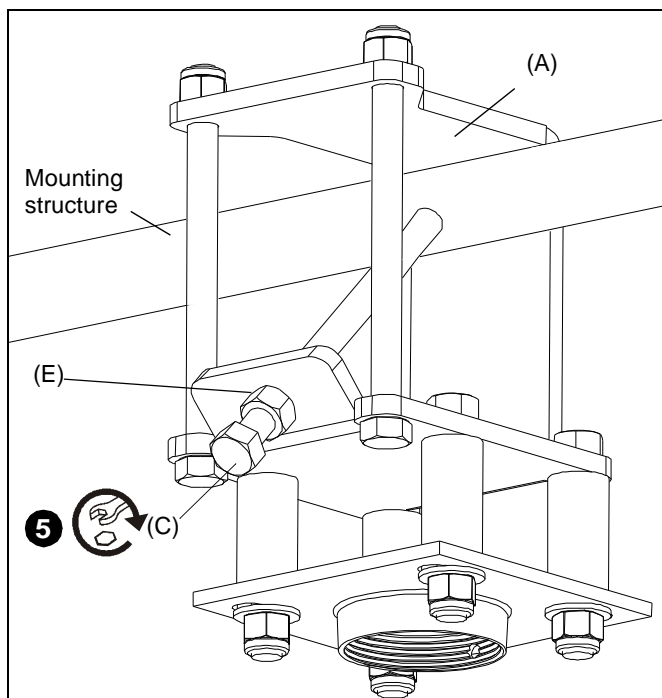

Figure 5
5. Tighten 3/8"-16 x 4-1/2" hex head tap bolt (C) against mounting structure, using the 3/8-16 hex nut (E) as a jam nut to secure the bolt in place. (See Figure 5)